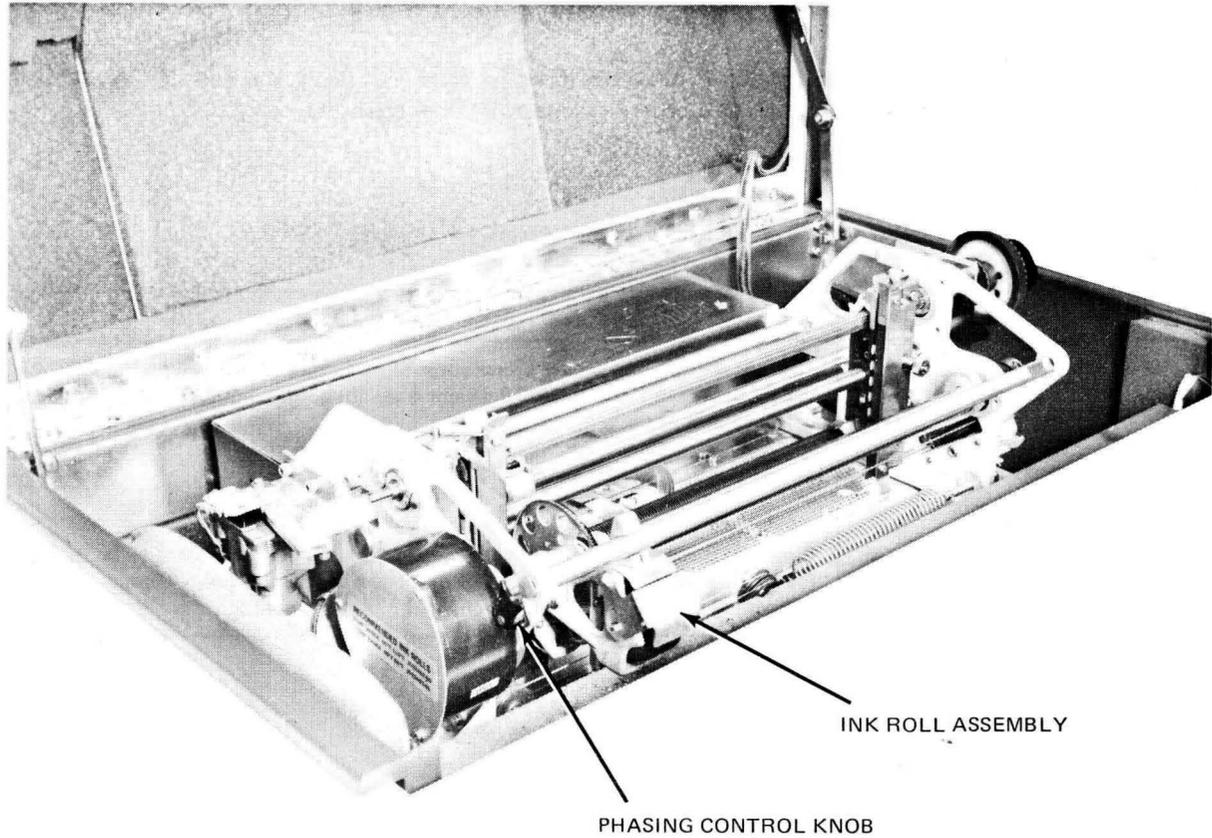

Figure 4-3. Incremental Printer Mechanism, Left Side
A phasing control knob is located on the left side of the printer mechanism (Figure 4-3) and can be rotated through 180 degrees. This control is used to time the moment of printing so that printed characters are not clipped at the top or the bottom. This adjustment is normally required if the thickness of the paper is changed.
2. Raise the hinged cover for the ink roll (Figure 4-3).